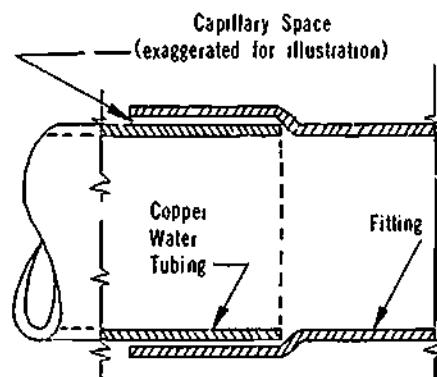

Figure 8-1. Cross Sectional View of Copper Tubing Joint
f) The strength of a brazed copper tubing joint does not vary too much with the different brazing materials but depends largely on maintenance of the proper clearance between the outside of the tubing and the fitting. Because copper water tubing and solder-type fittings are accurately made for each other, the tolerances permitted for each ensure that the capillary space (see Figure 8-1) will be kept within the limits necessary for a joint of satisfactory strength.